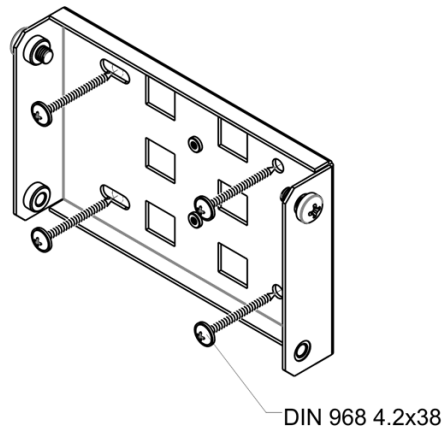
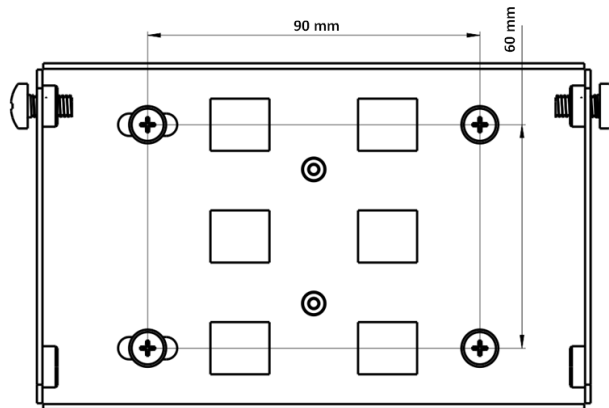

Figure 11 – Attaching bracket to the wall
Figure 12 – Distance between boltholes
- a. Figure 11 shows bracket allocation on the wall. Figure 12 shows distance between the boltholes.
- c. Install DIN7985 M6 screws in the top holes. Do not screw them fully. Leave at least 3 mm gap, see Figure 11.